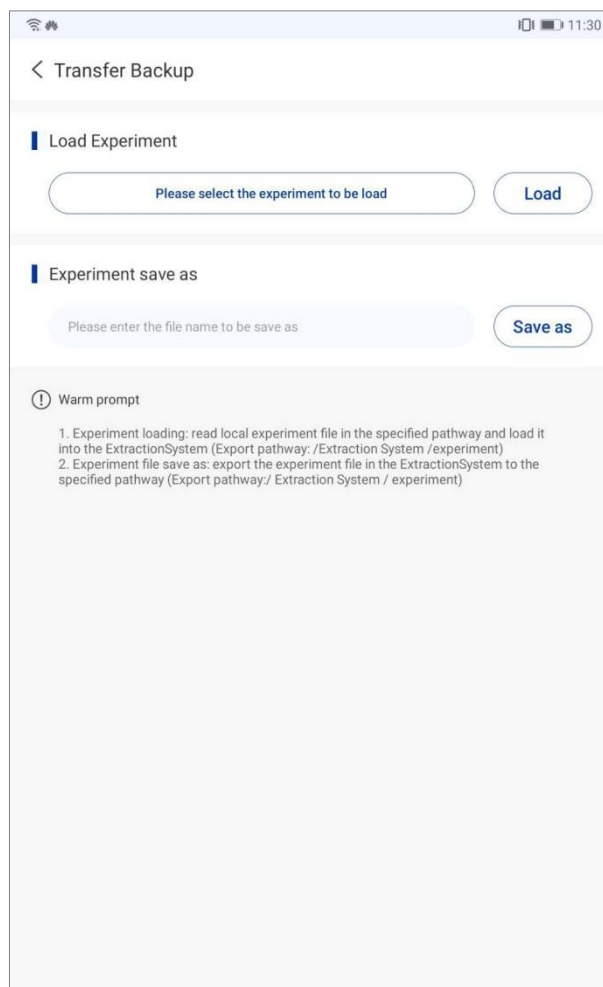

Figure 5-15. Setting Interface –Transfer Backup
- 3. **Transfer Backup:** intended to transfer and back up the experiments between application software and tablet PC, as shown in figure 5-15.